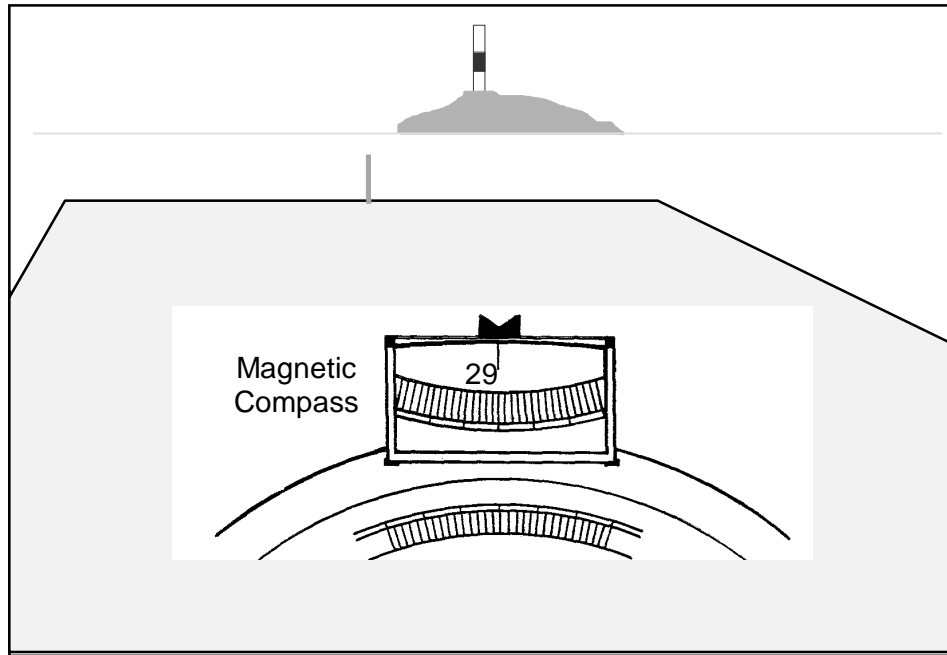

Figure 8.24 Obtaining a compass bearing
Refer to the Figures 8.24 & 8.25. From a known position at stage (1), the navigator obtains a compass bearing of the lighthouse as 295° . The tidal stream initially sets the vessel northward but that is detected right away by the decrease in the compass bearing. The navigator adjusts the course steered to ensure that the compass bearing of the lighthouse always stays at 295° .